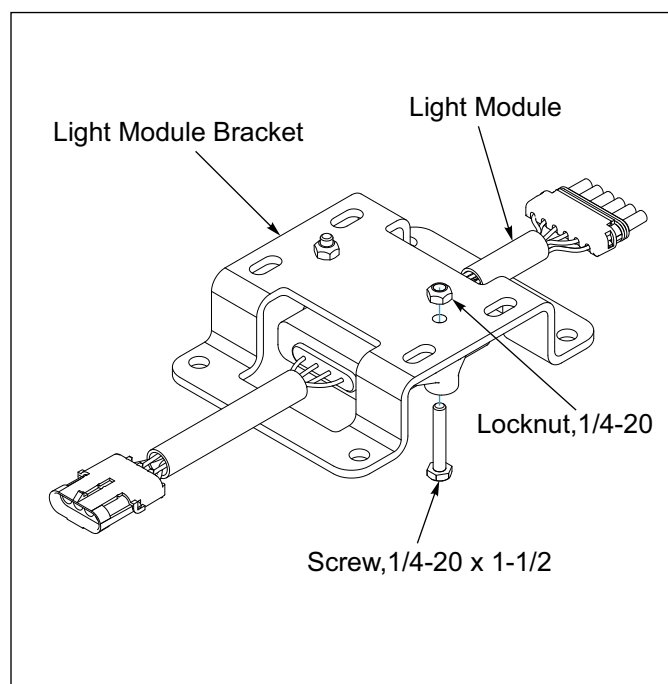

Figure 2-41: LED Module and Bracket
5. Attach the Light Module to the Light Module Bracket using two 1/4-20 x 1-1/2 Screws and Locknuts. **See Figure 2-41.**